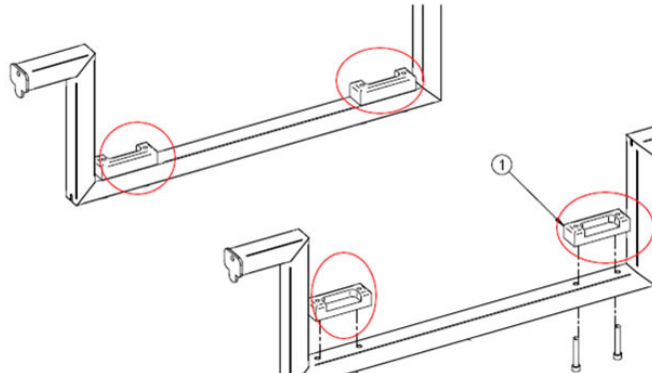

Figure 9
2. Lower the bed, until the lower fixed frame is completely supported by the U-shaped pieces of the fixture (see Figure 9).
7. Using a 1/2" combination wrench, remove the two bolts (D), two washers (C) and two shoulder spacers (B) holding the molded nut support to the elevation lever arm.
8. Using a #2 Phillips screwdriver, remove the two screws (E) holding the actuator support cover (G) to the head lever arm and remove it.
9. Remove the two pivot pins (H) holding the motor (A) to the support. To ease the removal of the pins, insert a small regular screwdriver into the opening at the end of the motor and push out the pins.
10. Using a #2 Phillips screwdriver, remove the two screws (F) holding the plastic screw cover (J) to the motor. Remove the plastic screw cover and install it on the new actuator.
2. Lower the bed, until the lower fixed frame is completely supported by the U-shaped pieces of the fixture (see Figure 9, page 1-44).
9. Using a 1/2" combination wrench, remove the two bolts (D), two washers (C) and two spacers (B) holding the molded nut support to the elevation lever arm.
11. Remove the two pivot pins (H) holding the motor (A) to the support. To ease the removal of the pins, insert a small regular screwdriver into the opening at the end of the motor and push out the pins.